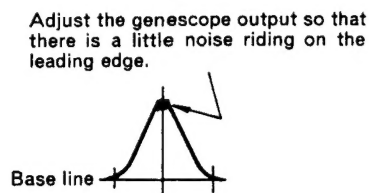

Fig. 1
1. Feed in a weak signal to TP101 from the genescope. Adjust T101, T201 for maximum gain and the wave form indicated in Figure 1. If the center of the wave form cannot be lined up on the marker, adjust the right/left balance.